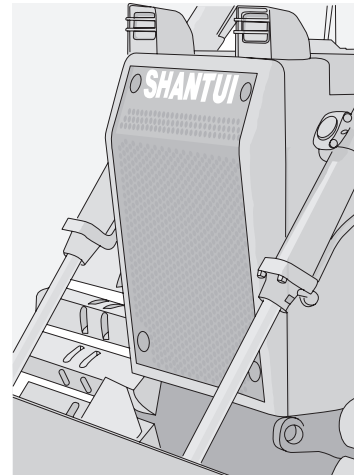

Figure 4-26
4. Water tank's radiation fin (Figure 4-26)